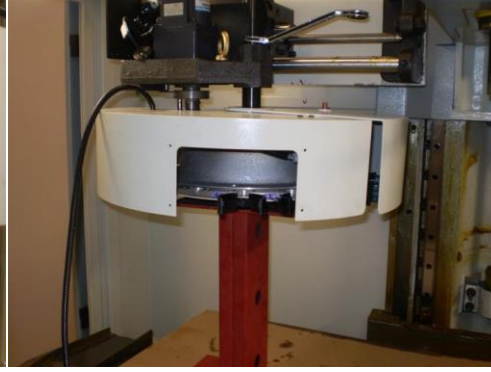

Figure 6.16.1b
- a. Remove the five button head socket screws that secure the tool changer slide guard (25), left
- b. Remove the four SHCS that secure the tool changer slide guard, upper (24), and remove.
2. Remove the two screws that secure the home position sensor (16) to the tool changer shroud, remove the home position sensor and set it aside.
3. Remove the two M8X20 SHCS that secure the door actuator bracket (18) to the Siding Assembly end plate (19).
4. Remove the tool detect sensor (17) from the tool detect sensor bracket (18) (adjacent the tool changer door). Slide the sensor out through the shroud seal, and set it aside.
6. Place the Column support beneath the Tool Carousel Assembly as shown in figure 6.16.1b.
9. Remove the M12X50 SHCS and let the ATC rest on top of the support and wood. Replace the M12X50 SHCS with a 3-foot length of M12 threaded stock, winding it in at least ten turns. See figure 6.16.1b.